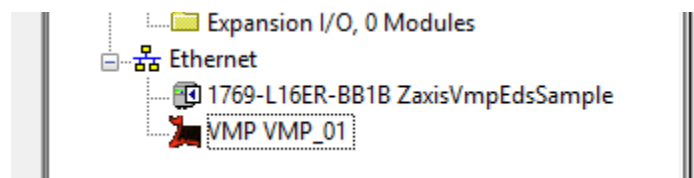

Figure 3 - Zaxis VMP Ethernet I/P Module
7. Clicking the **OK** button will finish the creation of the module, causing the newly created item to appear, as shown below in Figure 3 below.